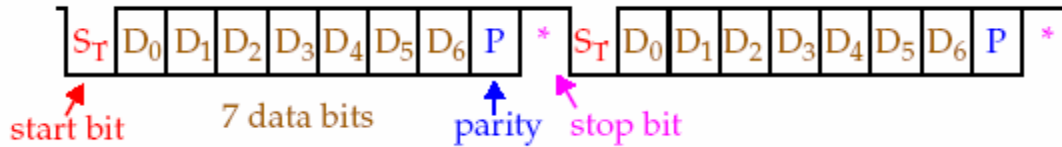

Figure 1 Serial Communication
- The data coming in at the receiving end of the data line in a serial data transfer bit by bit (Figure 1).